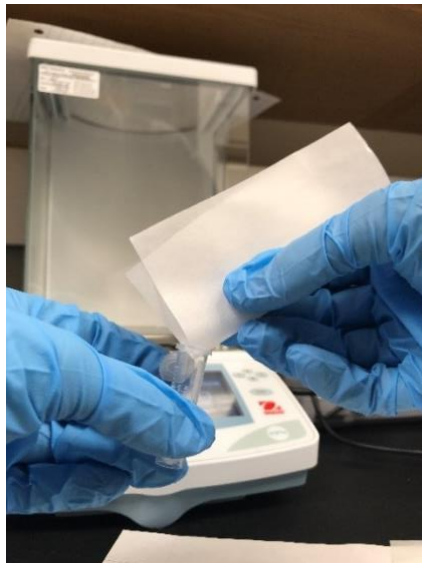

Figure 5: Demonstration of transfer of C14 “dust” from weighing paper to collection tube.
14. Take weighting paper off scale and fold the sheet in half without creasing paper and pour C14 sample into labeled centrifuge tube (Figure 5).